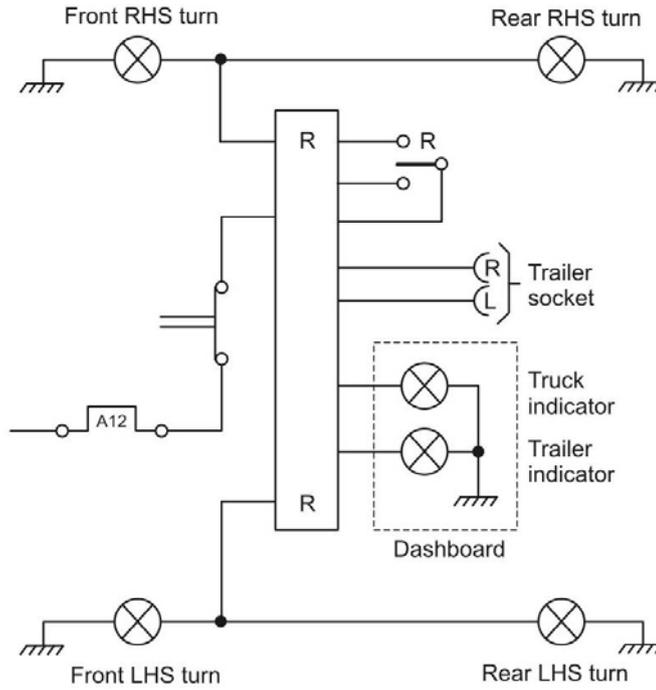

Figure 69 Turn Indicator Lights
**166. Turn Indicator Lights.** Power is fed from circuit breaker A11 to the flasher unit (Figure 69) via the normally closed contact of the hazard lights switch. A pulsed output is fed to the right-turn or left-turn indicator selector in the combination switch and back to the flasher unit. The flasher unit routes the pulsed output to either the right or left truck and trailer indicator lights and instrument panel indicators. The indicators do not operate under blackout conditions.